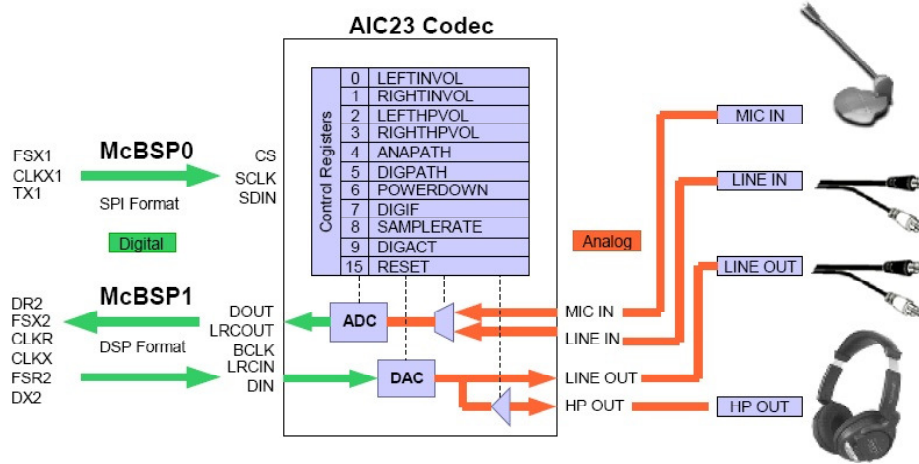

Figure 2: DSK6713/AIC23 interface
- AIC23 Stereo Codec 8KHz-96KHz sample rate, 16 to 32 bit samples, mic, line-in, line-out and speaker jacks. The dsk handles the coded through the Buffered Multichannel Serial Port (McBSP) as shown in Figure 2